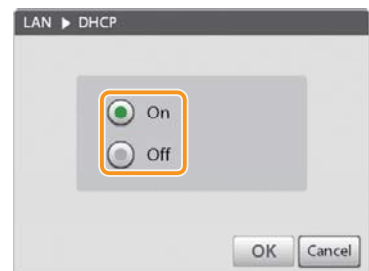

Figure 3-104
2. Select [On] or [Off]. (Figure 3-104)